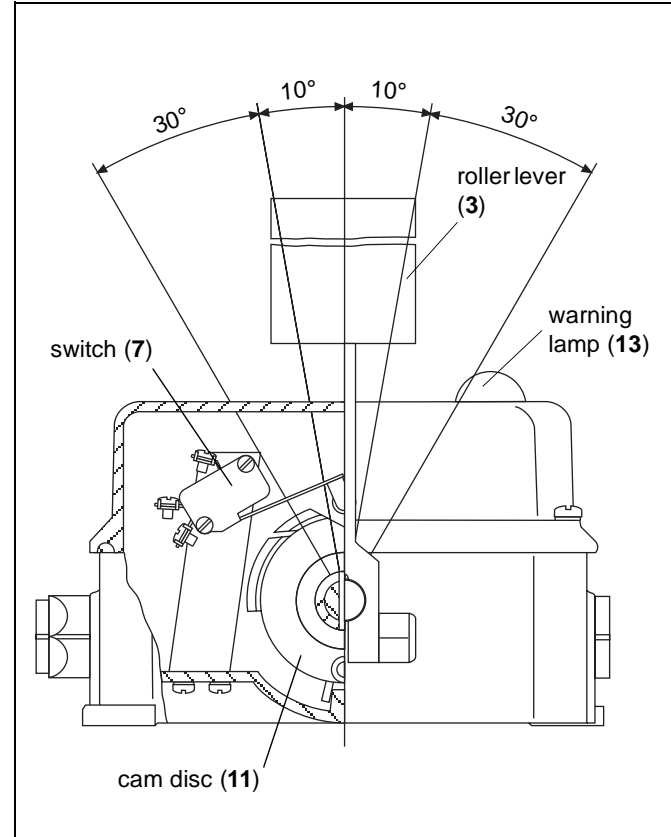

Fig. 3-2: Belt misalignment switch of the type HES
The roller levers (3) of the HES type belt misalignment switches can be deflected in both directions (see Fig. 3-2). The adaptation of switching points to certain locations is realized with adjustable cam discs (11) (see section 4.1 „Overview: HES Variants“). When the first switching point is reached, the belt misalignment switch triggers an early warning. When the second switching point is reached, the belt conveyor plant is switched off. If the belt misalignment switches have a warning lamp (13), these warning lamps (13) can be connected as following (see Fig. 3-2): the warning lamp (13) can e.g. light already at the early warning or only when the belt conveyor plant is being switched off.